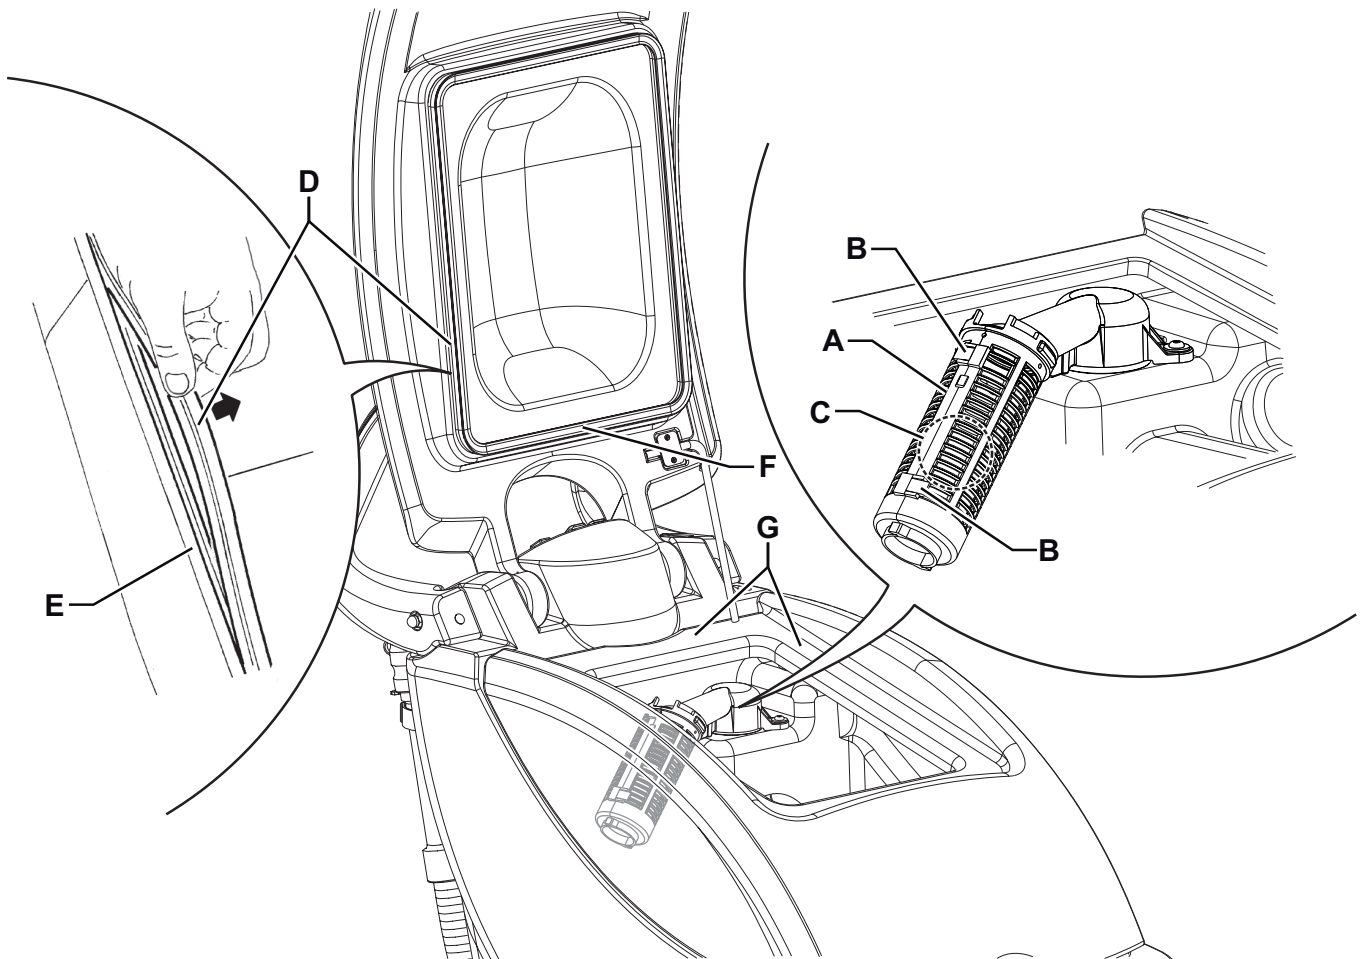

Figure 8
2. Make sure that the power supply cable plug (21) is disconnected from the electrical mains.
3. Open the recovery water cover (31), then clean and wash the cover, the tanks (27 and 28) and the vacuum grid (36) with clean water. Drain the water from the tanks with the drain hose (16) and the hose (18).
4. If necessary, release the fasteners (B, Fig. 8) and open the grid (A); recover the float (C), clean all the components and then reinstall them.
5. Check the recovery tank cover gasket (D) for integrity.